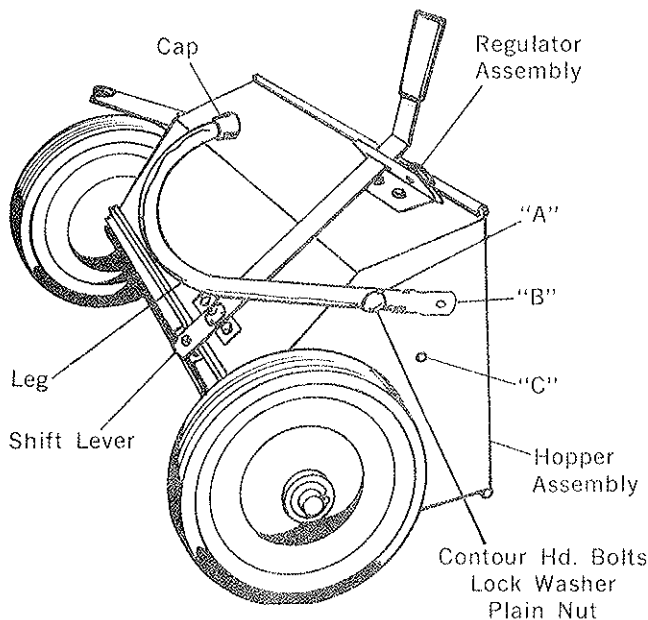

Figure 7
- Fig. 7 - Fasten a Leg on each side at the Hopper Assembly using a Contour Hd. Bolt, Lock Washer and Nut at hole "A". Line up the top hole in the Leg with hole "B" in the Hopper Assembly before tightening up the Bolt and Nut. The Contour Hd. of the Bolt must be on the tube side (Leg). **NOTE** - The Legs are left and right. Install Tube Caps.